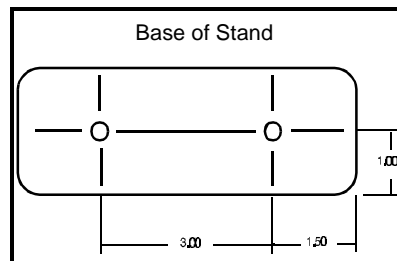

Figure 2
1. Drill two holes into the work surface that are the same size and distance as the holes on the stand base. (Refer to Figure 2)